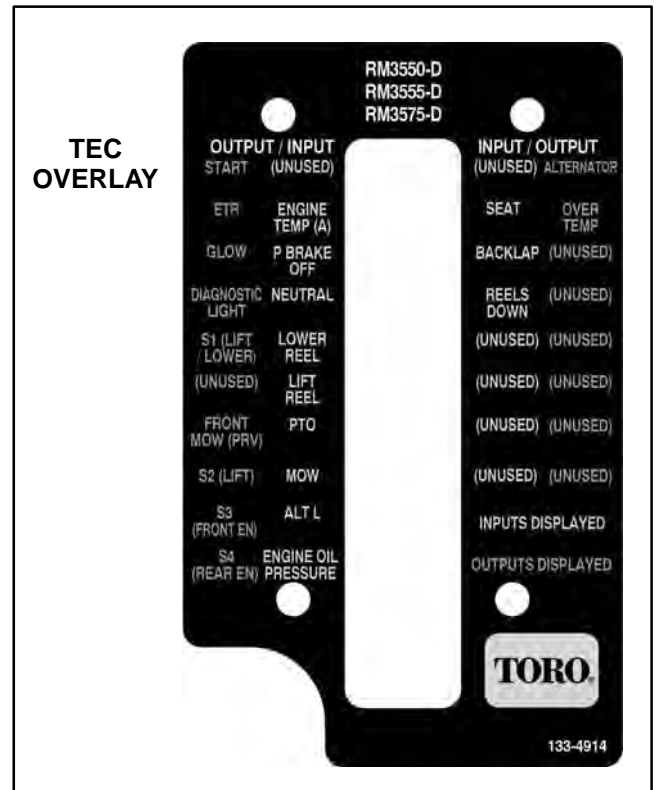

Figure 12
3. Connect the Diagnostic Display connector to the wire harness connector. Make sure correct overlay decal is positioned on the Diagnostic Display (Fig. 12).